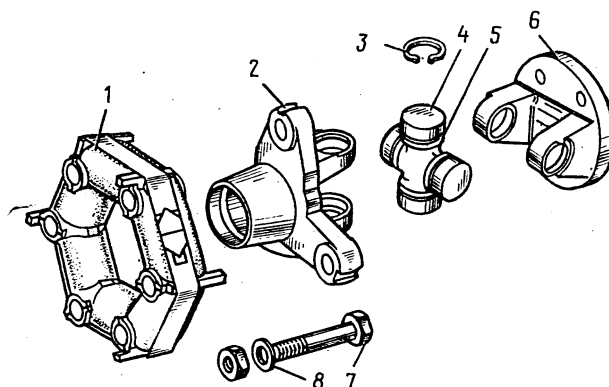

Fig. 3-48. Parts of Intermediate Propeller Shaft:
**Flexible coupling.** Examine the rubber elements of flexible coupling 1 (Fig. 3-48). In case of cracks or separation of rubber from the metal inserts, replace the flexible coupling.
The balance of the intermediate propeller shaft is checked at  $13 \text{ s}^{-1}$  (800 rpm). The required balance is ensured by the use of balancing washers 8 (Fig. 3-48). The unbalance should not exceed 2.4 N.mm (240 gf.mm).